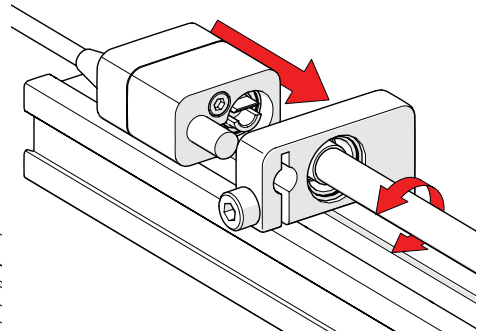

Fig. 45 - Align and mount post
2. Insert the encoder post in the index encoder support bracket while aligning the leadscrew shaft with the encoder socket (*Fig. 45*).